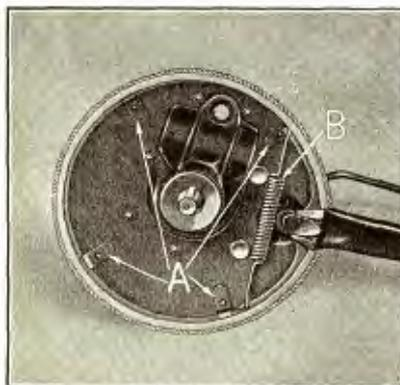
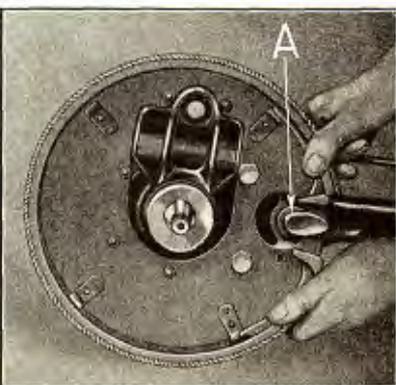
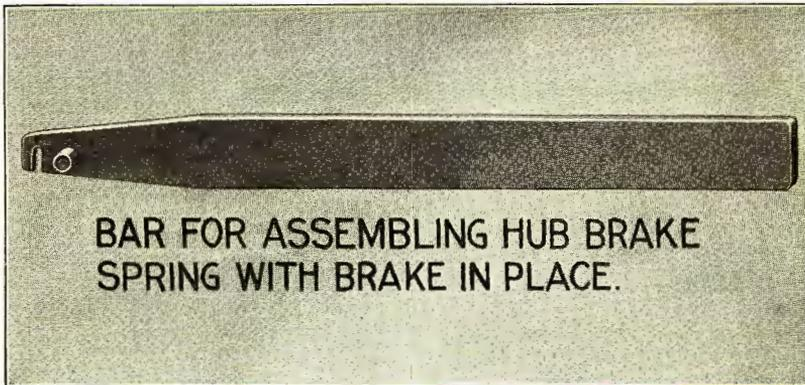
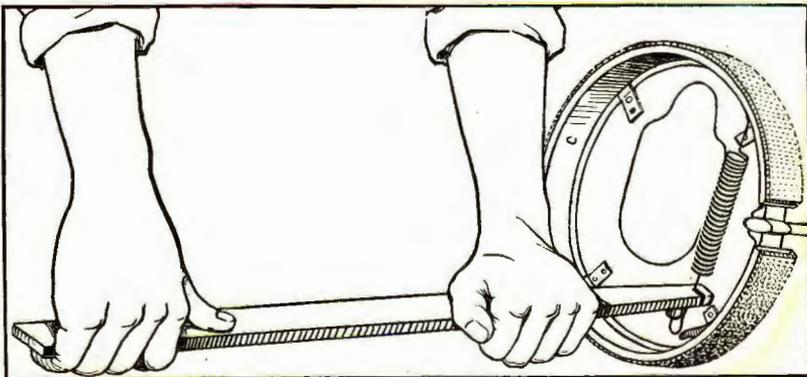

Fig. 557
Fig. 558
Fig. 559
Fig. 560
- 1222** The shoe is assembled to the axle housing plate by means of four steel clips which are riveted to the plate (see "A" Fig. 557). A heavy coil spring shown at "B" holds the shoe firmly against the hub brake cam.
1224 Disconnect brake shoe spring by withdrawing it from lugs on brake shoe. As the new spring is larger and has a much stronger tension than the old type spring, a special tool has been designed (see Fig. 559) to facilitate its removal and installation. Fig. 560 shows how the new tool is used to remove the spring. After removing the spring, the brake shoe can be lifted off of axle brake housing plate, as shown in Fig. 558.
1225 To install the new brake shoe, position it on axle brake housing plate, inserting the flange on the edge of the shoe behind the four steel clips on housing plate (see "A" Fig. 557). Line up brake shoe so that hub brake cam (see "A" Fig. 558) can be entered between ends of brake shoe.
1226 Install brake shoe spring by placing it over lug on upper side of brake shoe and hooking it over the lower lug with the special tool as shown in Fig. 560.